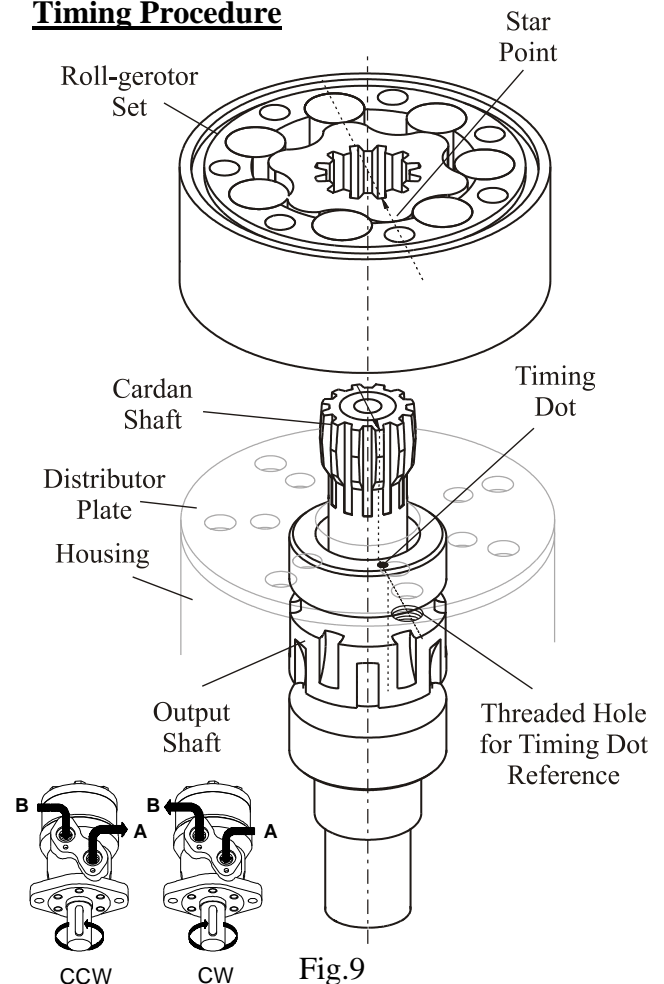

Fig.9
18. Place roll-gerotor set on distributor plate positioning any star point over the bolt hole aligned with the timing dot. Stepped bolt holes are facing with smallest diameter to the distributor plate (see Fig.9)